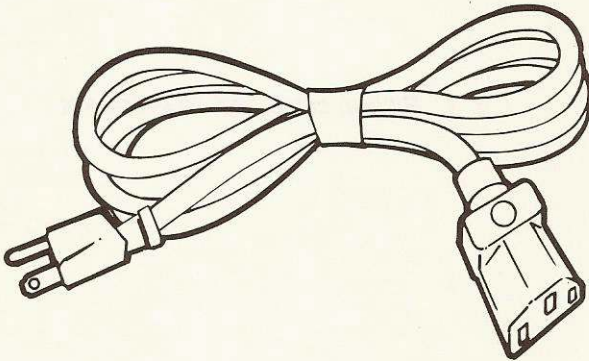

Fig. 6 Power cord
| Figure 6 | Power Cord 1 - 6 |
- * The power cord, depicted in Figure 6.